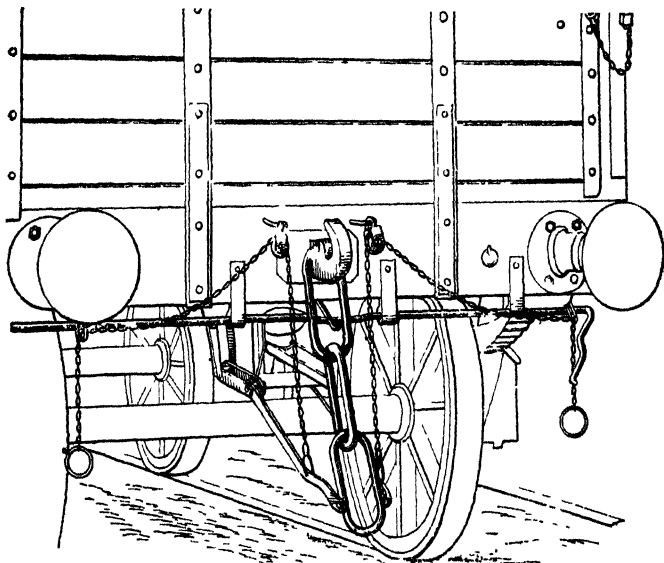

Fig. 32.—Mr. W. Cook, Jun., Glasgow (3rd prize, non-automatic).
*3rd prize, non-automatic, £25 (Fig. 32).*